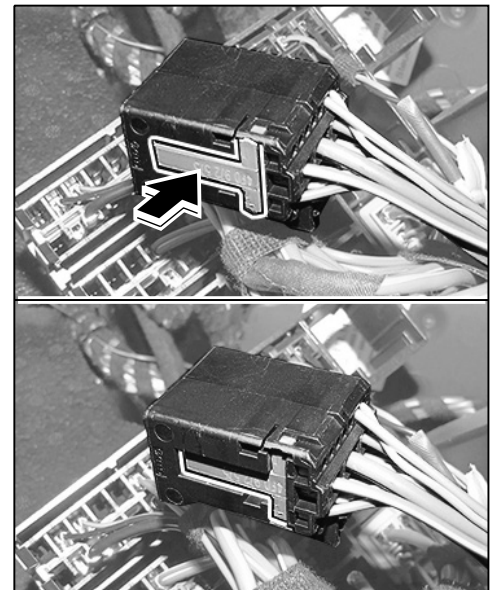

Figure 25
- 2.4.2 Release secondary lock on pin connector socket ⇒ *Figure 25 -arrow-*.